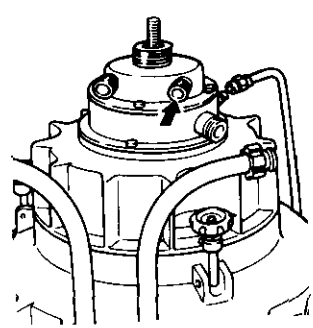
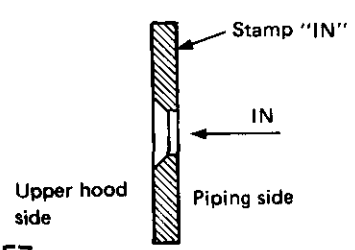

Fig. 6-56
Fig. 6-57
- (2) In case of assembling, be sure to fit orifice to the positic of arrow in Fig. 6-56, Fig. 6-57. (If orifice is not install flowmeter won't indicate correct flow rate).